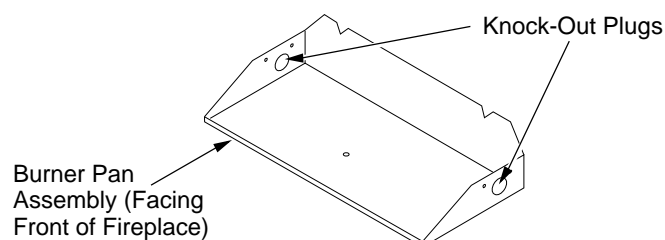

Figure 6 - Knock-Out Plug Locations
2. Using a hammer and screw driver, remove knock-out plug from the side of the pan that corresponds to the gas line (see Figure 6).